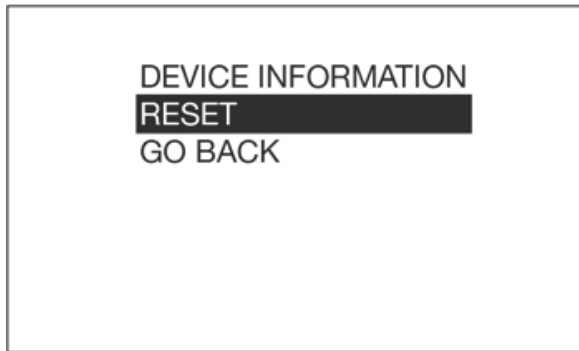

FIG. 53
3. The menu shown in FIG. 53 displays. Use the DOWN ARROW button to highlight RESET in the list.